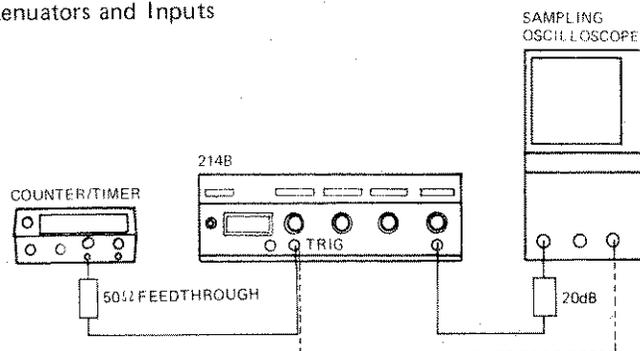

Figure 4-6
- Connect equipment as shown in Figure 4-6 and set 214B controls as follows: